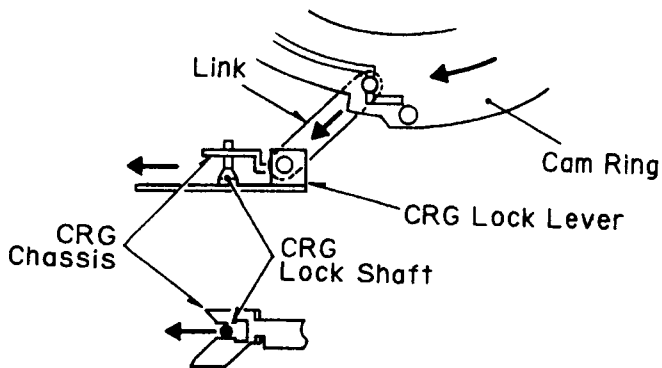

Fig.23
② The cam ring turns causing the link to be pushed, sliding the CRG lock lever, thus releasing the CRG chassis's lock (up/down direction).(Fig. 23)